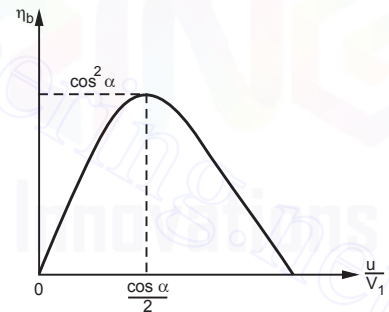

Fig. 3.10
- From the above discussion it is clear that, the maximum efficiency is  $\cos^2 \alpha$  and maximum work done per kg of steam is  $2u^2$  when  $\frac{u}{V_1} = \frac{\cos \alpha}{2}$ , Refer Fig. 3.10.